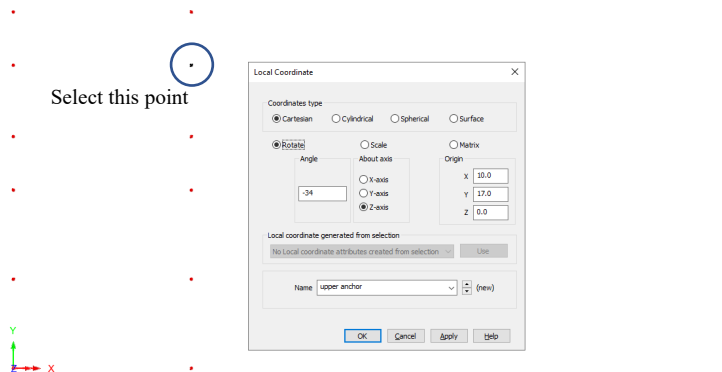

Figure 4: Definition of local coordinate system for upper anchor
- Select **Attributes > Local Coordinate...** then select the radio button **Rotate**, enter an angle of **-34** in the angle field (the angle is measured anticlockwise about the z-axis) and enter a name of **upper anchor** (figure 4). Then click **OK**.